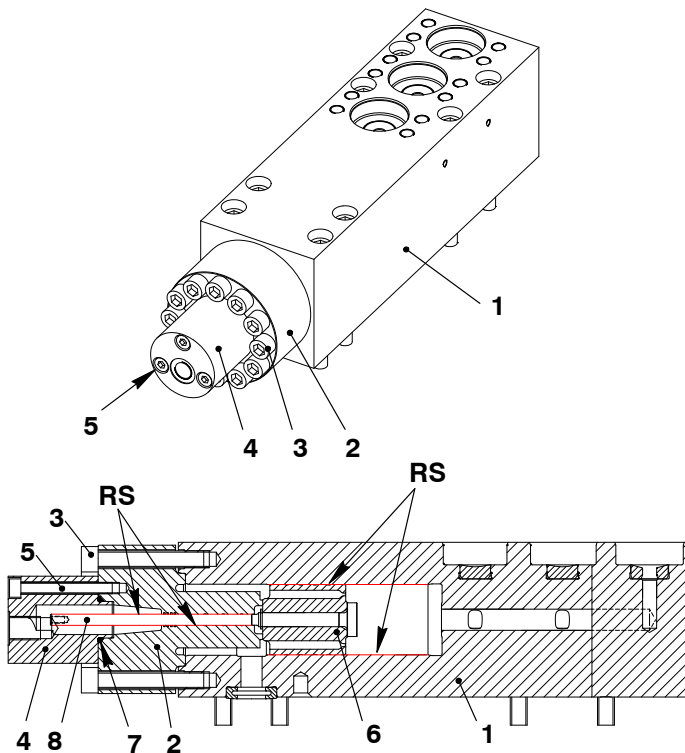

Fig. 4
- 1) Remove the three bolts (5, Fig. 4) and the cover (4).
- 2) Remove the twelve bolts (3).
- 3) Carefully remove the flange (2) together with the piston rod (8) and the piston (6).
- 4) Remove the piston (6) together with piston rod (8) from the flange (2).
- 5) Use ScotchBrite™ and a cleaning solvent e.g. Neoval®, WD40® etc to clean the piston rod (8) and piston (6).
- 6) Put the piston rod (8) and piston (6) in the flange (2). If the piston rod does not freely move, clean the piston and piston rod again.
- 7) Examine the running surfaces (RS) of piston rod (8), flange (2), piston (6) and valve block (1).